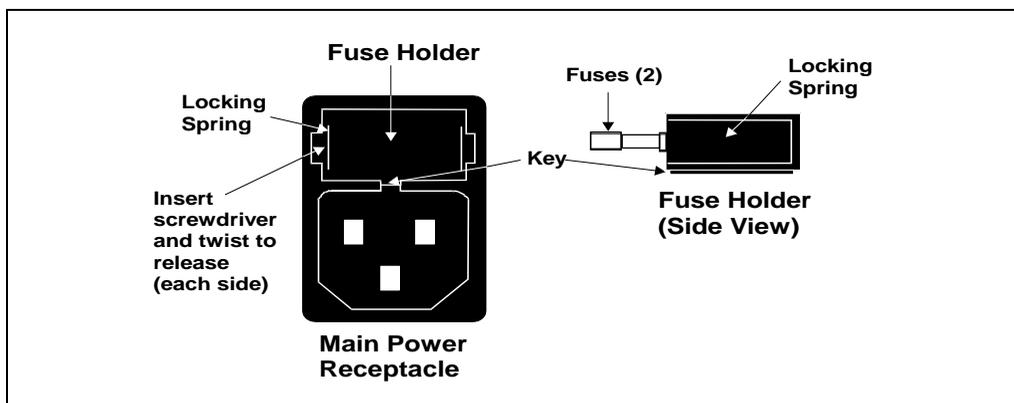

Figure 5-4. Main Power Fuse Holder
3. The fuse holder is part of the main power receptacle (see Figure 5-4). Note the recessed lock on each side of the fuse holder.